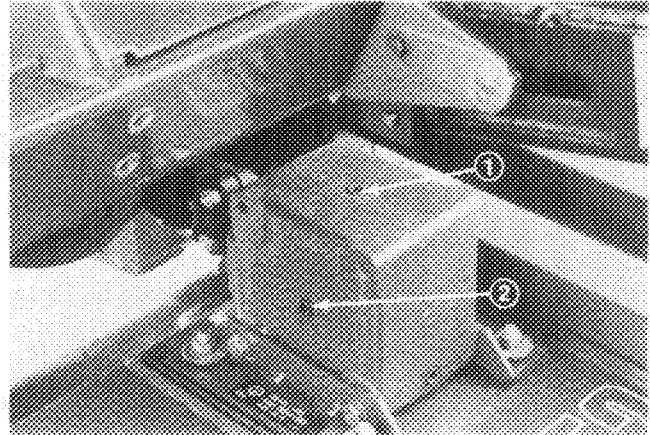

Figure 17
2. Remove check plug from side of gear box (Fig. 17) and make sure lubricant is up to bottom of hole. If level of lubricant is low, remove fill plug on top of gear case and add enough lubricant to bring it up to bottom of hole in side.